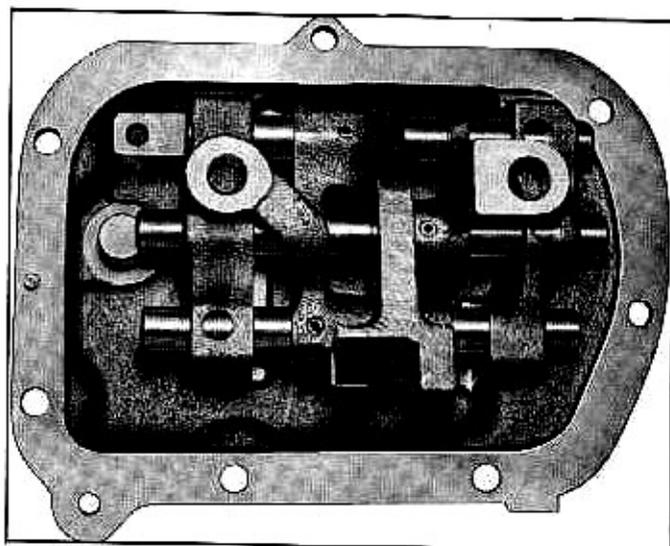

Fig. 5B—1-2 Shifter Shaft & Head Installed to Cover
16. Line up holes in head and shaft; insert pin. (Fig. 5B)